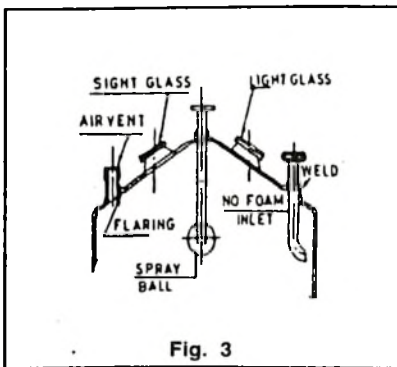

Fig. 3
Desaerator or Airvent, CIP (Cleaning In Place) sprayballs, Sightglass, overflow, no foam inlets, SS adjustable ball feet and ladder are a must for all storage vessels. (Ref : Fig.3).
6. Wherever nozzles, outlet cups, inlets, etc. are welded, follow the joints shown in the Fig.3.